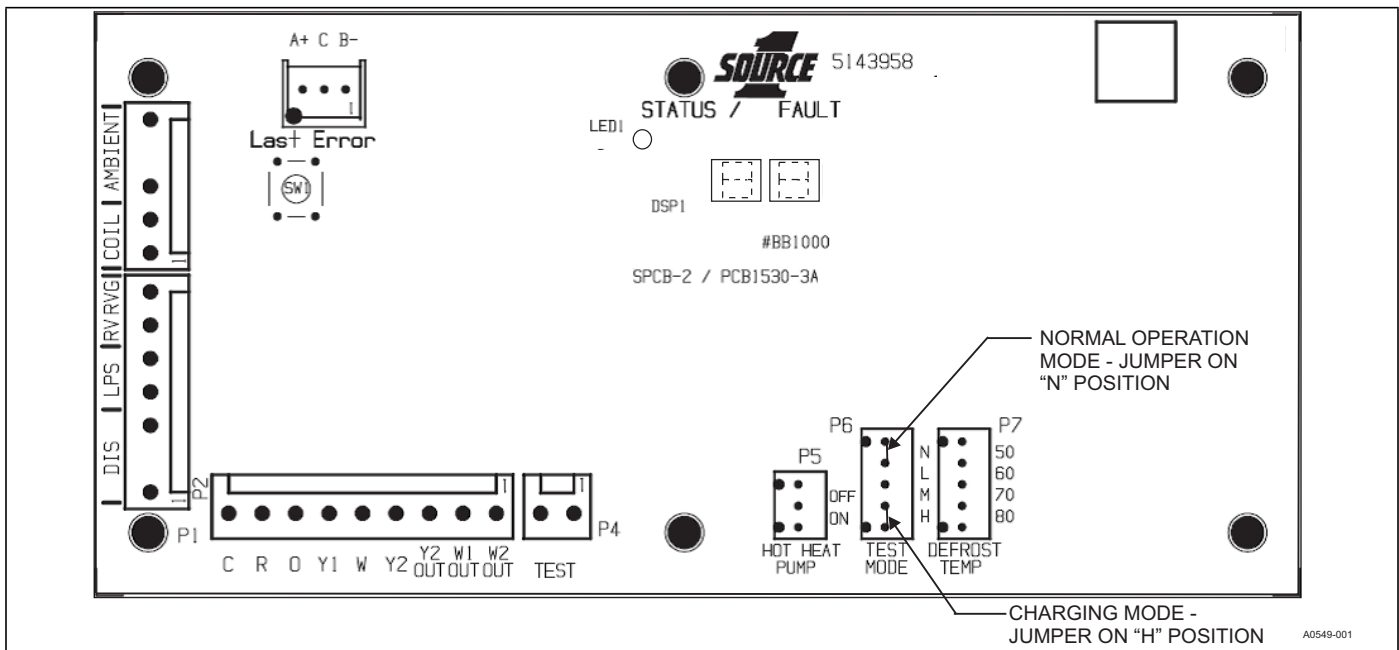
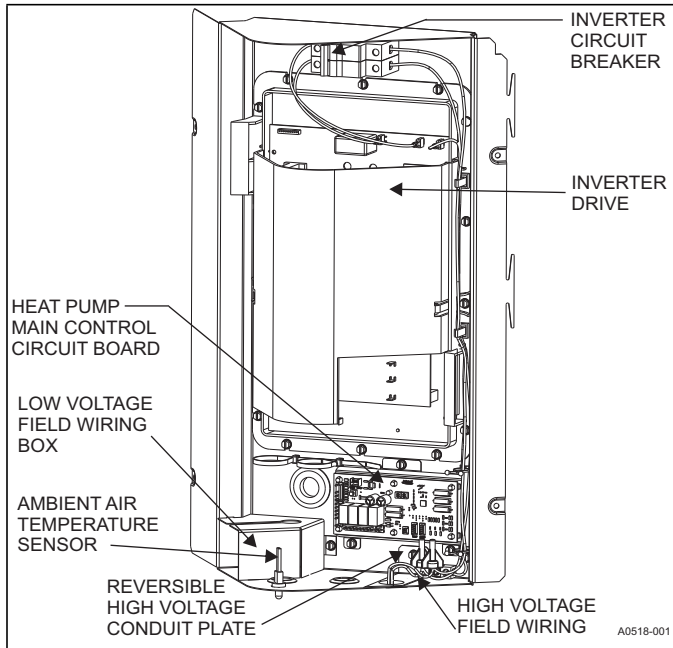

FIGURE 10: Jumper Location for Charging Mode and Normal Operation Mode
FIGURE 12: Outdoor Unit Control Box (Single Phase)
6. When charging system, move the P6 TEST MODE jumper from the normal "N" operating position to the high "H" position. After the system is completely charged, move the P6 TEST MODE jumper from the "H" position to the "N" position for normal operation. See Figure 10 for "H" and "N" jumper positions.
1. Route low voltage wiring into bottom of control box as shown in Figure 10. Make low voltage wiring connections inside the low voltage box per Figure 12.